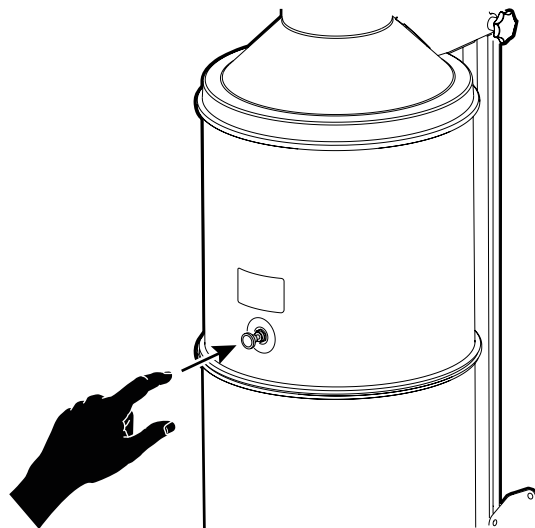

Fig. 7
5. Check that the pressure valve opens and closes; conduct manual cleaning by pressing the push button per **Fig. 7**.
See **Fig. 7**.
2. Perform manual compressed air purging by pressing the push button three times at ten-second intervals, as shown in **Fig. 7**.